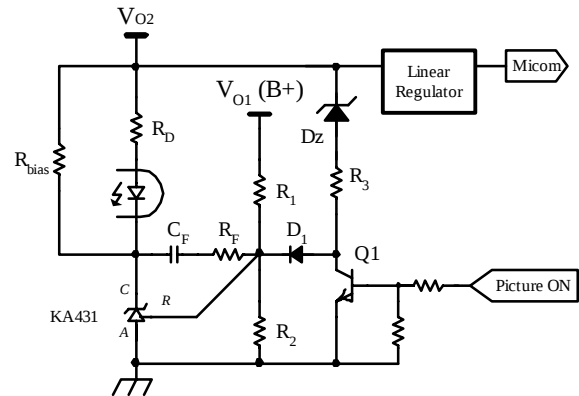

Figure 15. Typical feedback circuit to drop output voltage in standby mode
6. Burst operation : In order to minimize the power consumption in the standby mode, FSCQ1265RT employs burst operation. Once FSCQ1265RT enters into burst mode, FSCQ1265RT allows all output voltages and effective switching frequency to be reduced. Figure 15 shows the typical feedback circuit for C-TV applications. In normal operation, the picture on signal is applied and the transistor Q1 is turned on, which de-couples R3, Dz and D1 from the feedback network. Therefore, only Vo1 is regulated by the feedback circuit in normal operation and determined by R1 and R2 as